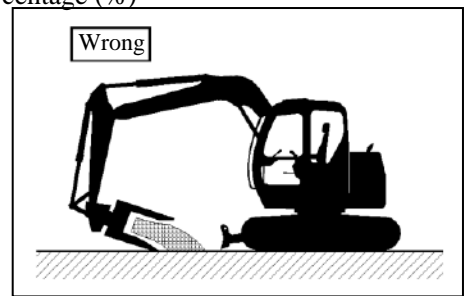

Figure 3.9.7
- (1) In order to prevent damaging excavator, don't operate hydraulic crusher when bucket cylinder fully extend or retract (As figure 3.9.7).
- (2) Don't swing upper structure to the side of machine to operate hydraulic crusher. In order to prevent excavator overturning, it should carry out crushing only at frontage and rear of machine.
- (3) Don't operate hydraulic breaker on slope. It should operate on horizontal ground.
- (4) Don't use hydraulic crusher to haul debris.
- (5) Hydraulic crusher operation will pollute hydraulic system and accelerate aging. It should replace hydraulic oil filter core and hydraulic oil more frequently to avoid damaging hydraulic pump and other hydraulic parts. The recommended replacement interval is referred to the "Hydraulic breaker operation tips".
- (6) When transport excavator, remember to take out hydraulic crusher from the machine, and fit covers or plugs on all hydraulic hoses.